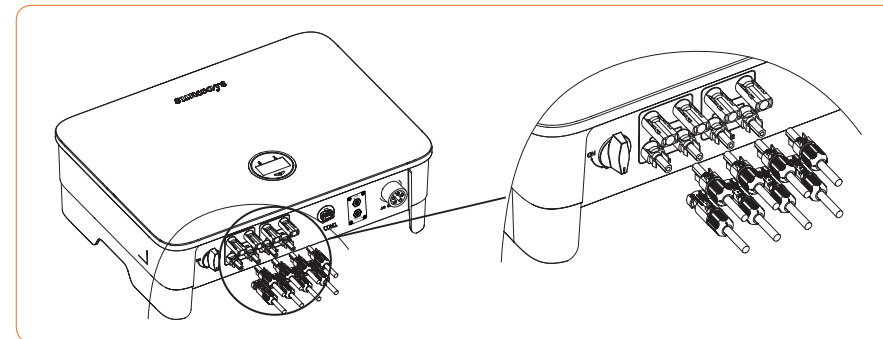

Figure 4-18
- ① Before assembling the DC connector, make sure that the cable polarity is correct.
- ② Use a multimeter to measure the voltage of the DC input string, verify the polarity of the DC input cable, and ensure that each string voltage is within 1000V.
3. Insert the positive and negative connectors into the inverter DC input terminals respectively, a click sound should be heard if the terminals are well connected, as shown in Figure 4-18: